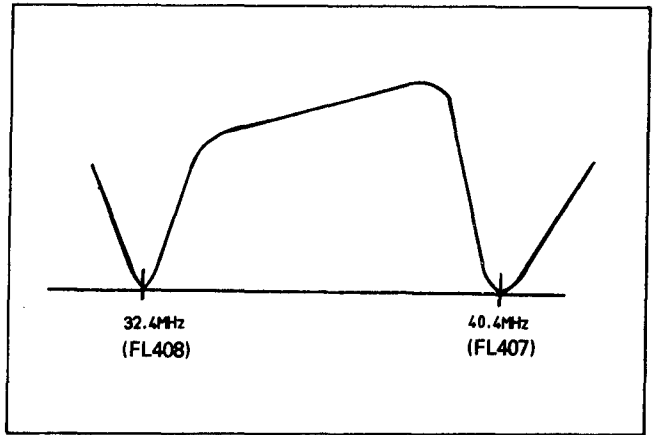

Fig. 13 Trap Adjustment
- 5) Adjust the trap (FL408, FL407) in the Tuner unit shown in Fig 13.